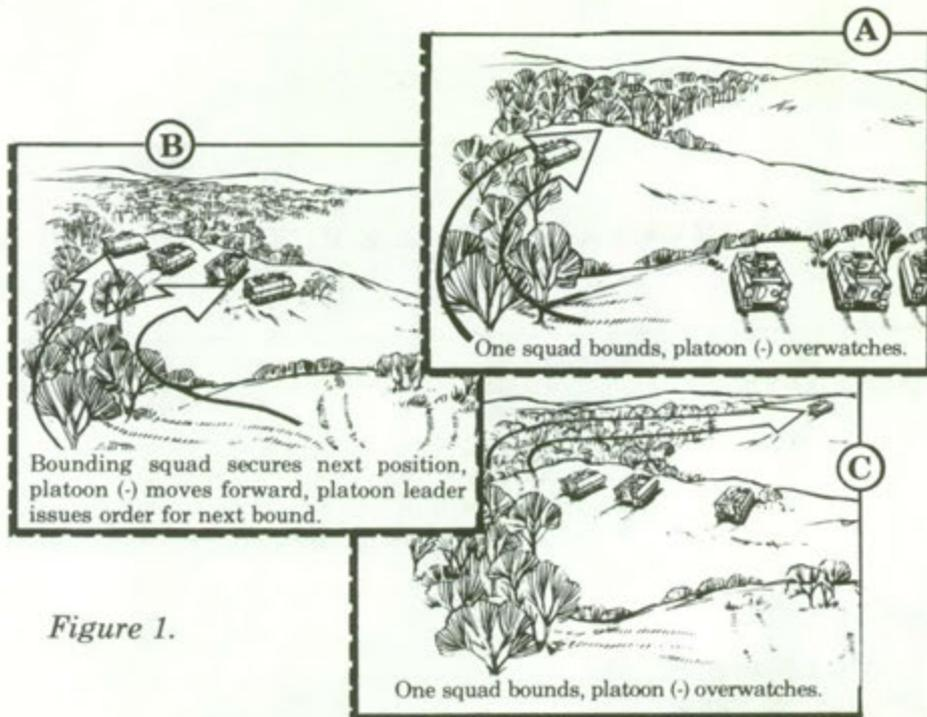

Figure 1.
1. The platoon uses the bounding overwatch technique of movement by bounding one squad forward while the platoon (-) overwatches from a stationary position (figure 1).